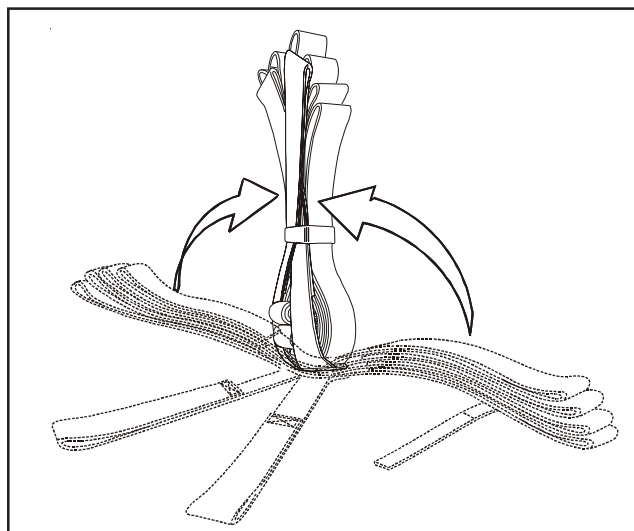

Figure 12 - Final Folds
6. Lift the body straps and the black V-straps until they meet above the center of the Fastrap (Figure 12). Secure the straps with the storage strap.